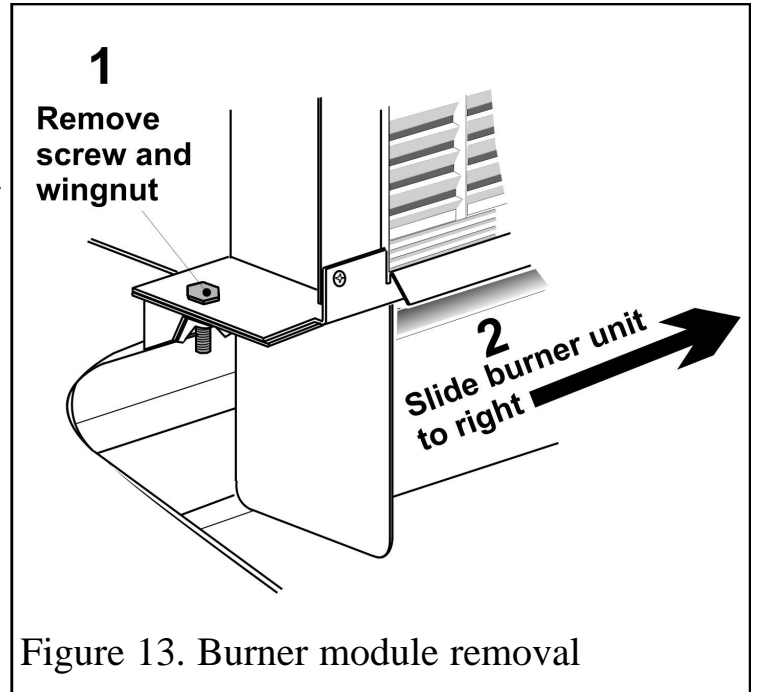

Figure 13. Burner module removal
**11.6.4.** Detach the left end of the burner module from the radiant box by removing one screw and a wingnut (See figure 13).
**11.6.5.** Carefully slide the burner module to the right to free it from the right side of the radiant box (See figure 13).